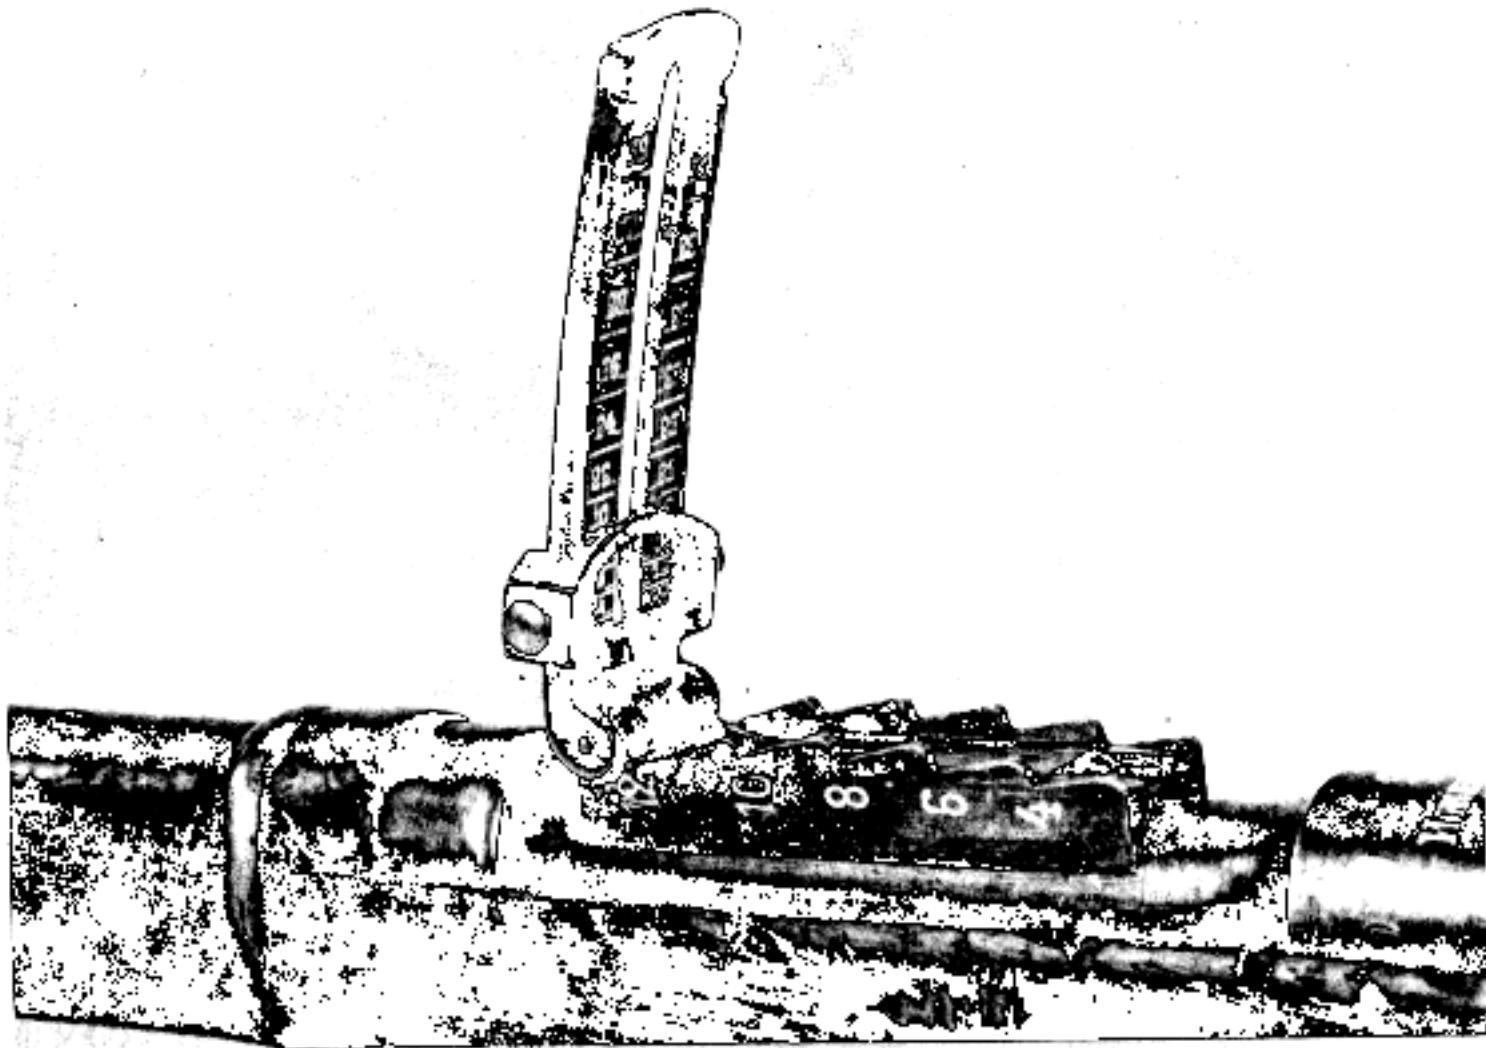

FIGURE 2. REAR SIGHT FOR RIFLE M1891.
a. This rifle has a notched-ramp leaf-type rear sight (fig. 2) which has no provision for windage. The sight is graduated from 400 to 3,200 arshins (811 to 1,483 yards).